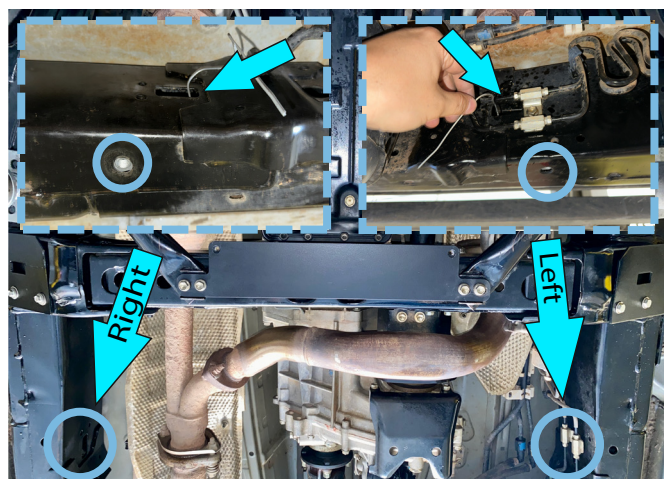

Fig.4
4. Install Insert nut M10 (item I) into the right frame rail as shown in Fig 4&5.